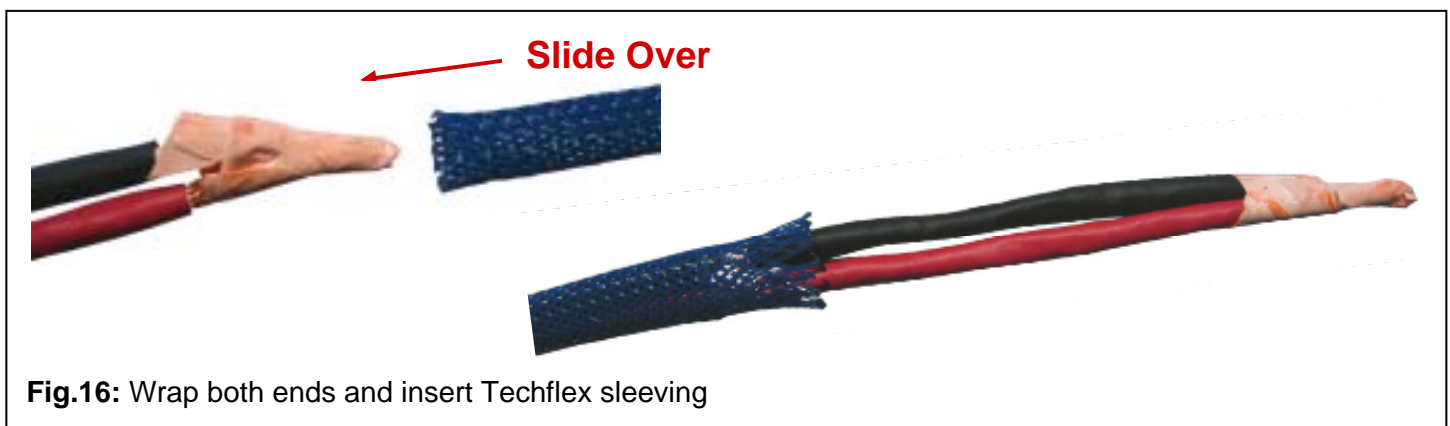

Fig.16: Wrap both ends and insert Techflex sleeving
20. Wrap both exposed ends of the black and red terminal leads together and insert into techflex expandable sleeving (**Fig. 16**)